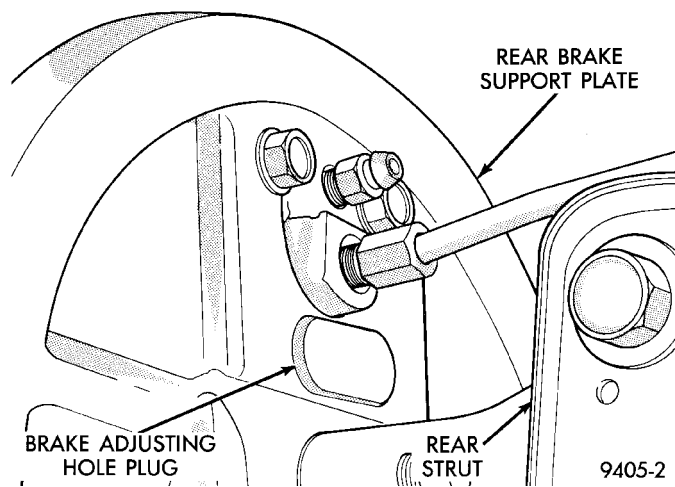

Fig. 184 Rear Brake Adjusting Hole Plug
(1) Raise the vehicle so all wheels are free to turn. See Hoisting Recommendations in the Lubrication And Maintenance Section at the front of this service manual.
(2) Remove rear brake adjusting hole rubber plug (Fig. 184) from the rear brake shoe support plate.
(6) Repeat above adjustment at the other rear wheel. Install adjusting hole rubber plugs (Fig. 184) in rear brake supports.
(7) Apply and release the park brake lever one time **after** wheel brake adjustment.